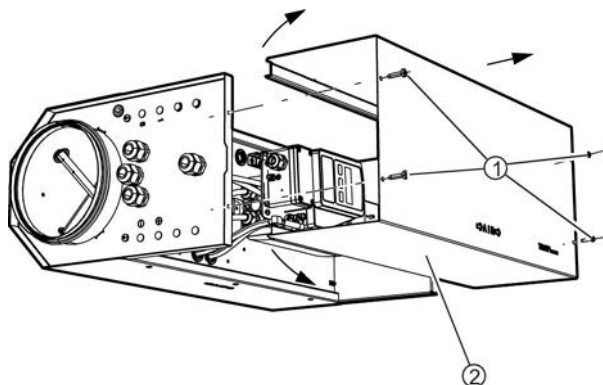

Fig. 10: Opening the casing
1. ▶ Unscrew and remove 4 screws (Fig. 10/1) using a Phillips screwdriver.
Press both side parts (Fig. 10/2) of the cover slightly outwards using a screwdriver.
3. ▶ Fix and tighten it with 4 screws (Fig. 10/1) using a Phillips screwdriver.